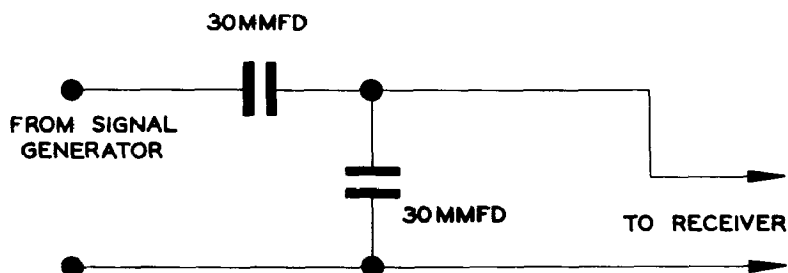

FIG. 11
- 2—Connect the signal generator leads, through the dummy as illustrated in Figure 11, to the antenna receptacle on the receiver.